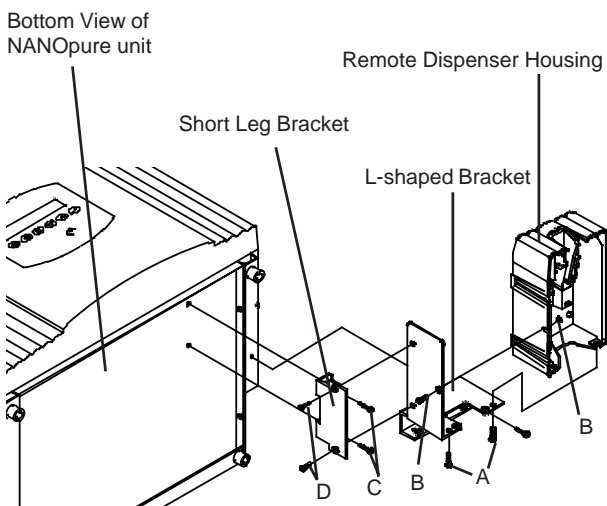

Figure 3 Remote Dispenser Housing Installation
2. Place the L-shaped bracket to the left and back sides of the remote dispenser housing. Replace the two screws (1/2" x 8/32" pan head) removed in step 1 into the back of the housing to attach the bracket (See Figure 3, A).
3. Place one flat head screw (1/2" x 8/32") into the left side bottom of the L-shaped bracket. Secure it with the nut supplied. (See Figure 3, B)
4. Attach the remaining bracket with the two pan head screws(1/2" x 8/32") to the bottom right side of the Infinity unit with the short legs pointing to the right. (See Figure 3, C).
5. Locate the remote dispenser housing/ L-shaped bracket assembled in step 2 and the two remaining flat head screws. Line up the two holes in the bracket mounted on the bottom of the Infinity unit with the two holes in the remote dispenser housing/L-shaped bracket. Secure with the two flat head screws. (See Figure 3, D).